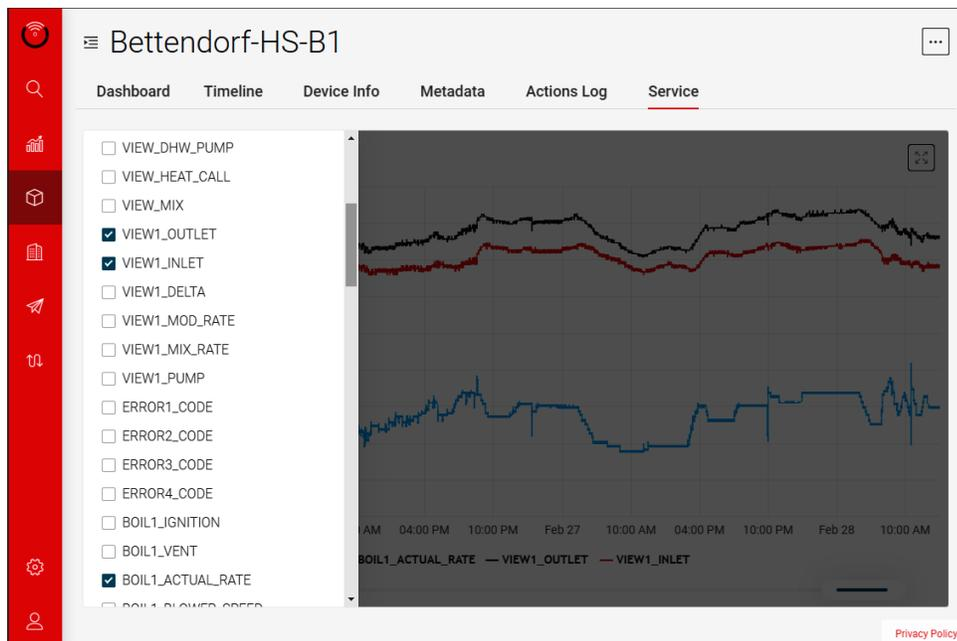

Figure 79. Data Streams
5. On the left panel you can select one or multiple data streams to include on the graph. See **Figure 79**.